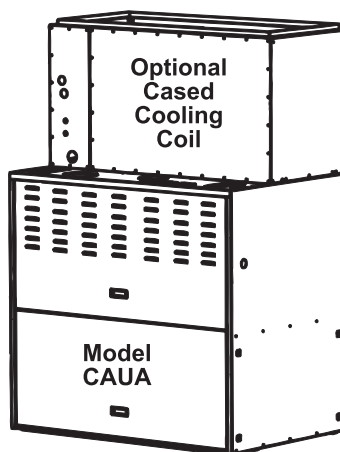

Figure 1. Model CAUA with Optional Cooling Coil
- These instructions are for installing an optional cased cooling coil on a model CAUA heater (see Figure 1). The coil may be ordered as either model ACU (A, B, or C) or as a C option. Thermostatic expansion valves selected to match the coil are shipped loose for field-installation.